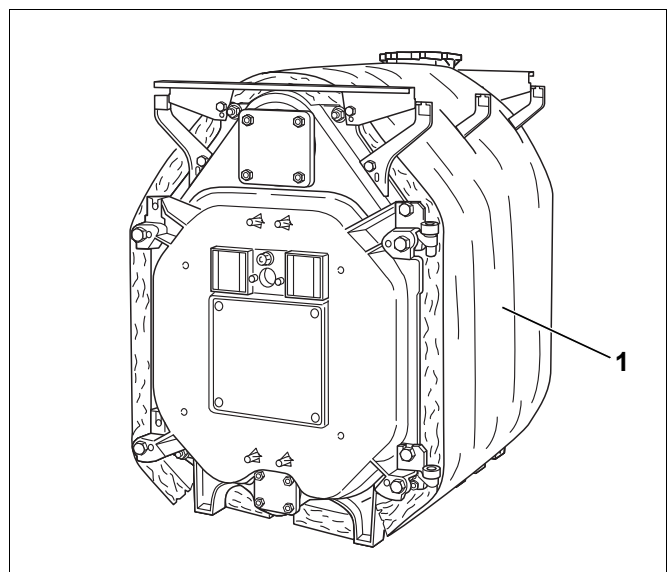

Fig. 41 Boiler block with thermal insulation
- The thermal insulation supplied (Fig. 41, [1]) corresponds to the respective boiler size. Arrange the thermal insulation in accordance with the diagram shown on drawing 42 on the boiler block (the figures above the thermal insulation shown unfolded correspond to the number of boiler sections).